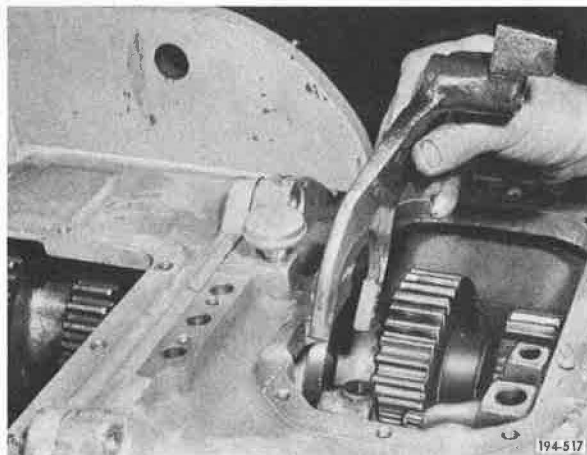

Figure 5-241. Removing Shift Fork
19. Remove first speed shift fork. See Figure 5-241.